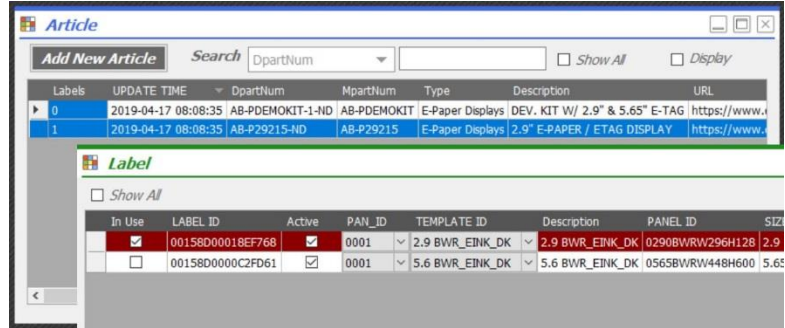

Fig. 11
Select the small black arrow to the left of the label with the 2.9 e-Tag template ID to pair it with the article. Right click on the arrow and select **Auto Pair (1)**. The label will turn red; then close the Label dialog box. See Figure 11. Repeat this step for the 5.6 e-Tag; then close the dialog boxes.